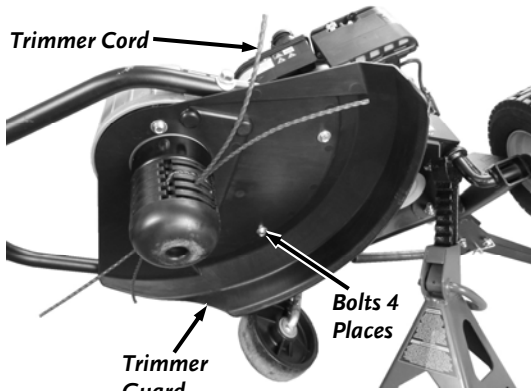

Figure 33
2. Lift the right side of the machine up and support it with a Jack stand (**Figure 33**).